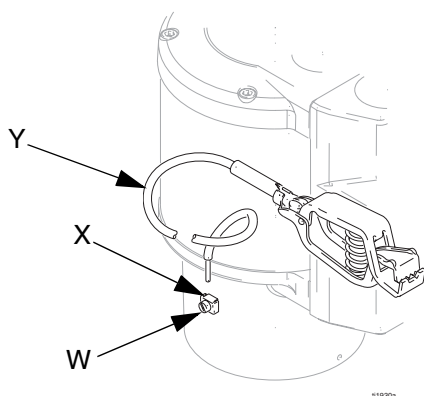

FIG. 1. Grounding Wire
1. *Pump:* use Part No. 238909 Ground Wire and Clamp (supplied). See FIG. 1. Insert one end of the ground wire (Y) into the pump's grounding clamp (X) and tighten the screw (W) securely. Connect the other end of the wire to a true earth ground.